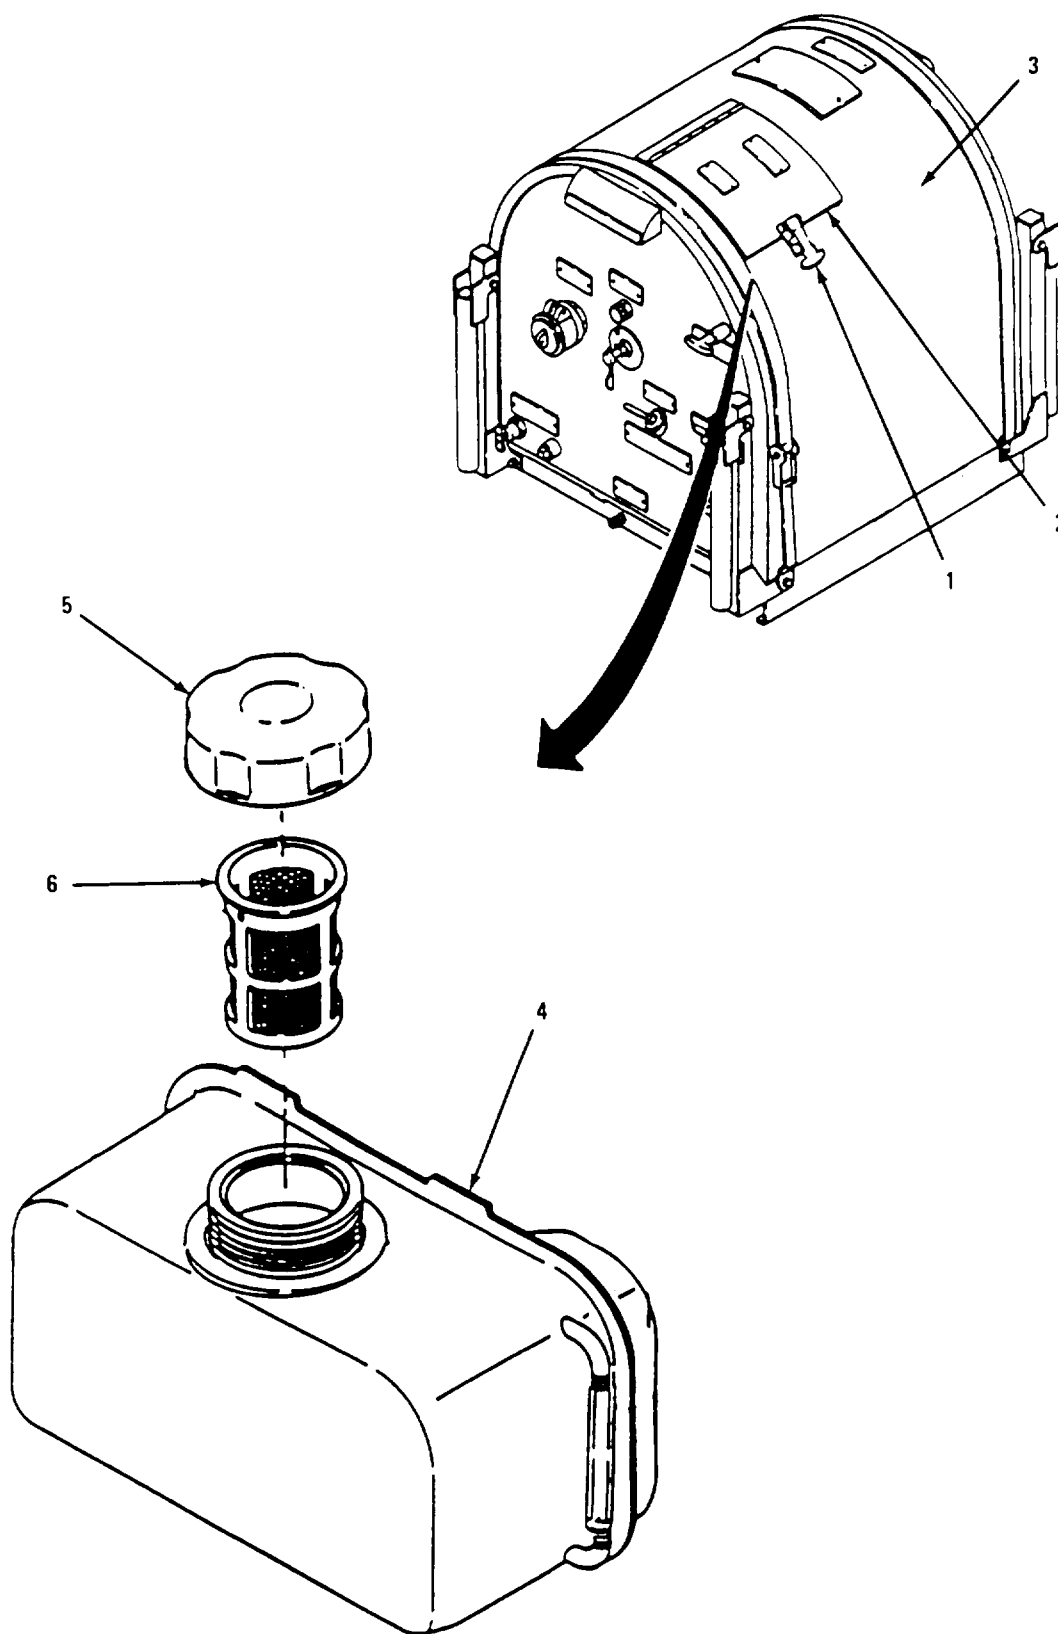

Figure 2-5. Refueling Pump Unit
- (8) Make sure that all connections are tight; perform operator PMCS.
- (9) A male quick disconnect Reducer (2"x 1 1/2") is provided when the fuel source has a 2" connector.
- c. Filling the Unit Fuel Tank. Before starting the pump unit, the fuel tank must be filled with fuel. To fill the fuel tank, perform the following procedures. (Refer to Figure 2-5.)
- (1) Disengage the latch (1) on the access door (2) of the enclosure assembly (3) and open access door (2).
- (2) Check fuel level in fuel tank (4). To insure that fuel tank is filled with fuel. If fuel tank is not full, perform steps (3) through (6) to fill the tank.